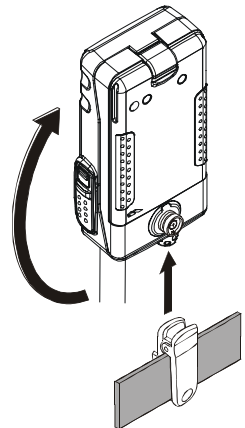

Figure 4
- ❑ To remove the **VX-127** from the Quick-Draw Belt Clip, rotate the **VX-127** 180 degrees, then slide the **VX-127** out from the Quick-Draw Belt Clip (Figure 4).